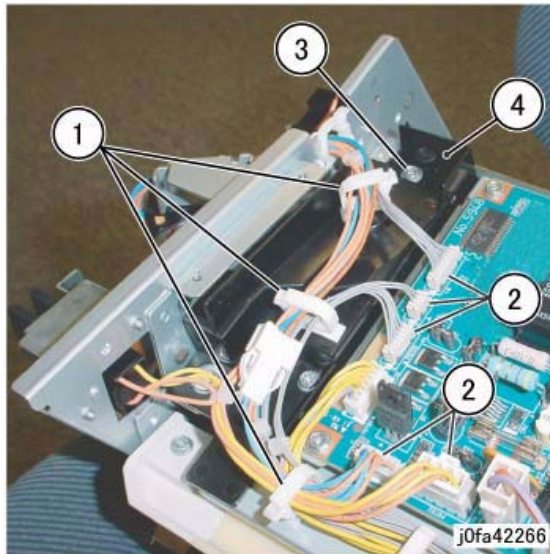

Figure 1 Removing the Connector Bracket
6. Remove the Connector Bracket (Figure 1):